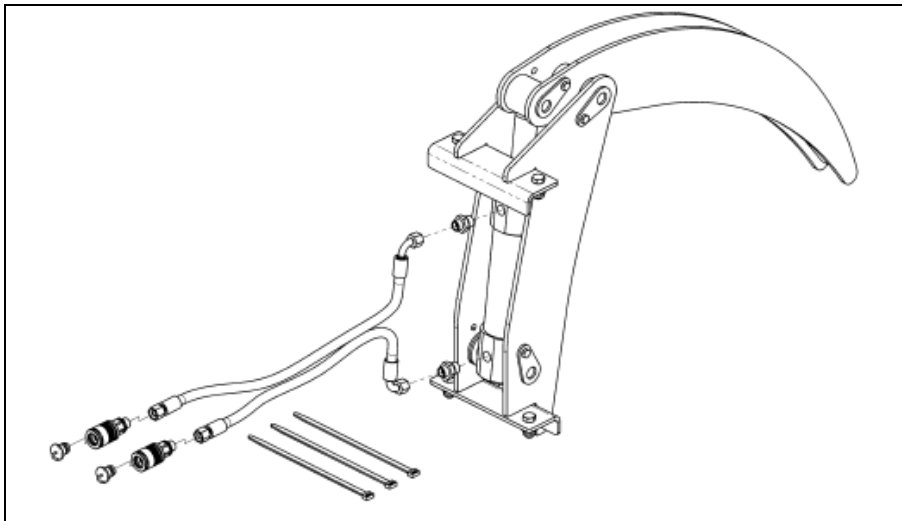

Fig. 20: STOLL-Top loading grip: Preparations before the first start-up
- Then screw on the two hydraulic hoses as shown in the figure 20 with the mounting boss and attach the coupling sleeves onto them at the other end.